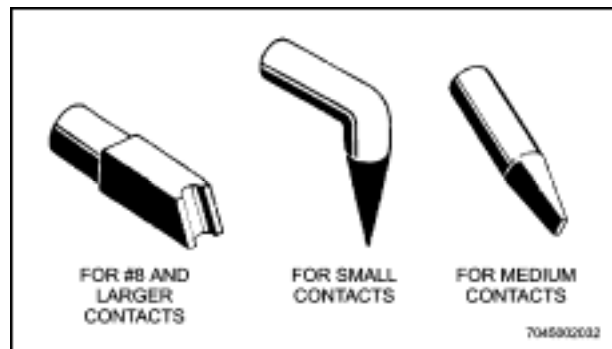

Figure 10-5 Soldering Iron Tip Shapes
- e. Select a soldering iron tip of a shape to provide good heat transfer. A large area touching the contact will help to produce a good connection quickly. See Figure 10-5 for suitable soldering iron tips.